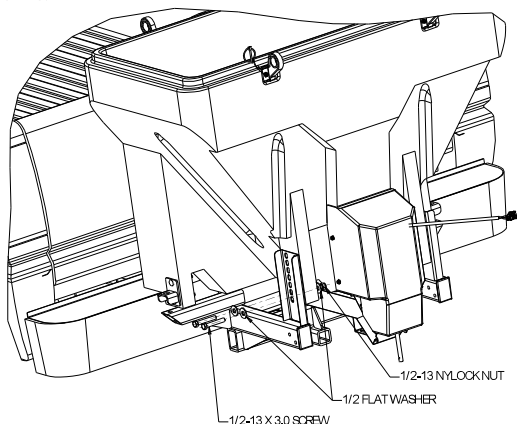

Fig. 3
3. Align holes in rear portion of the hopper with slots in frame uprights. Use slots which will position spreader with a slight upward tilt. Secure hopper assembly to frame using 1/2-13 x 3.0 screws, flat washers and nuts. Fig.3. Do not tighten fasteners at this time.